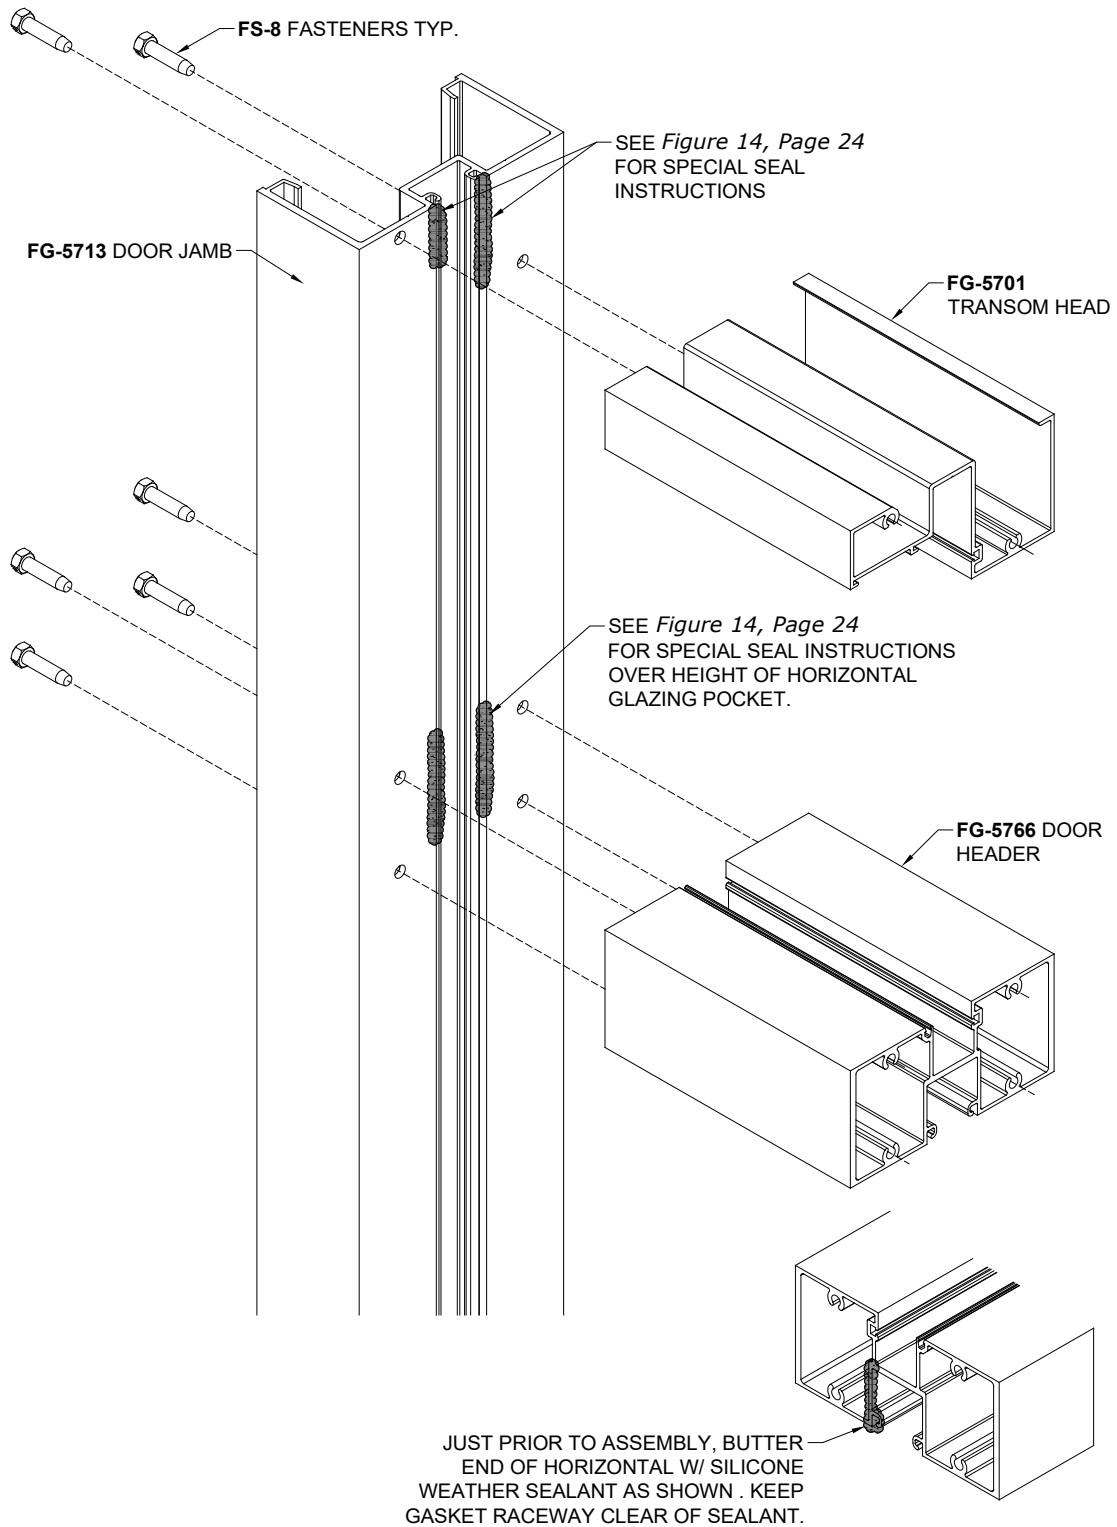
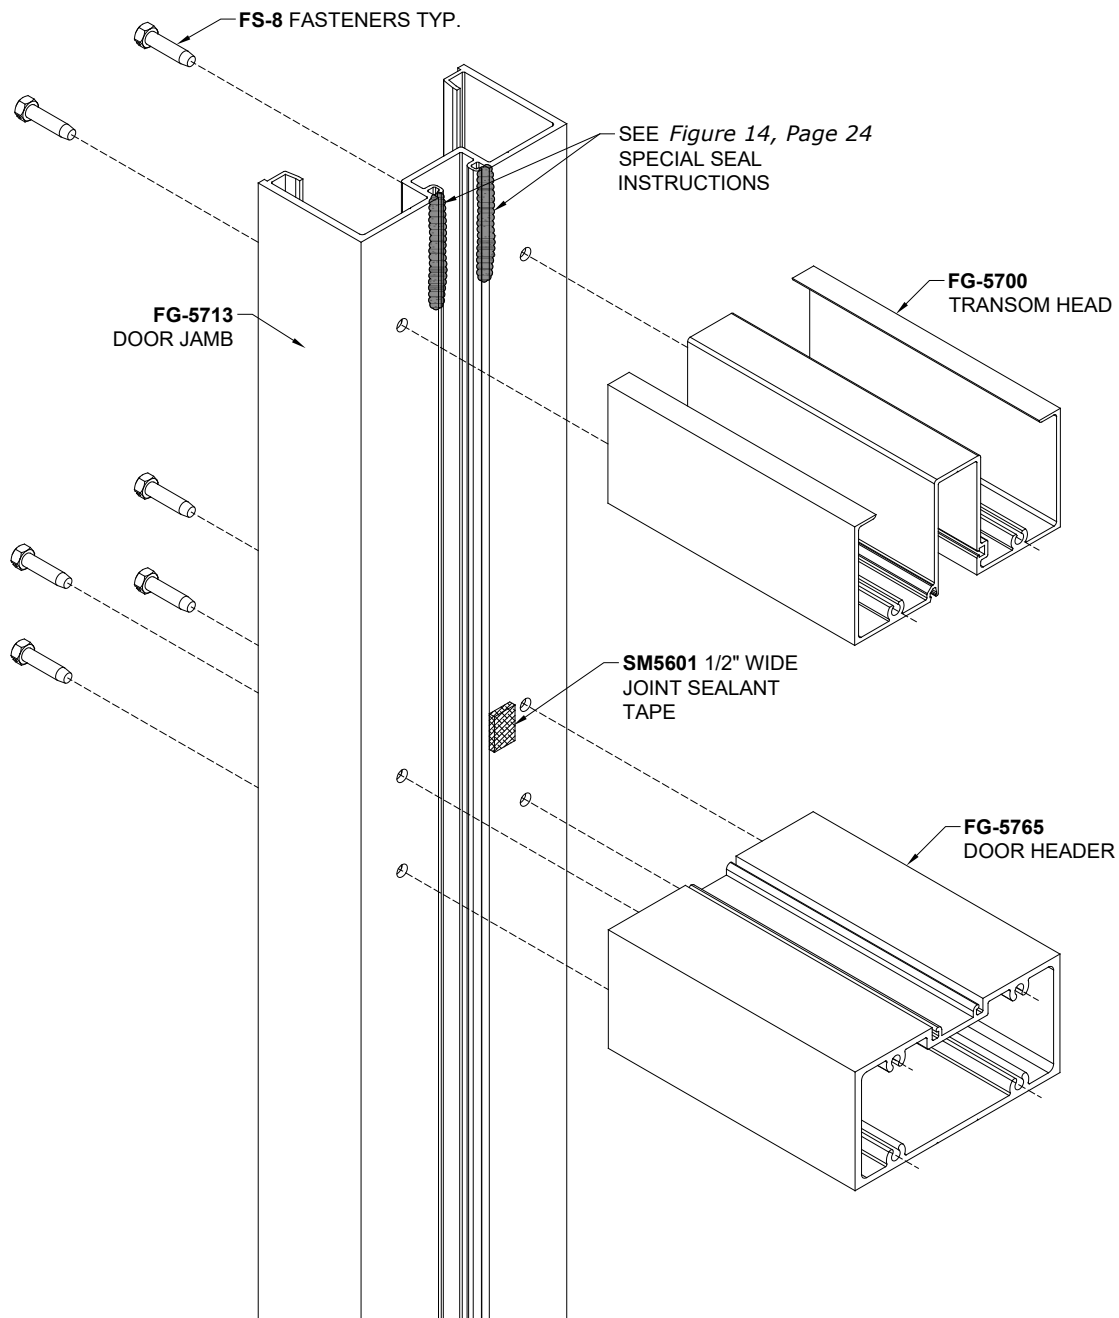

Figure 12: FG-5700 StormMax® Door Frame Assembly Option 1
Figure 13: FG-5700 StormMax® Door Frame Assembly Option 2
- 3.1 Reference Figure 12 and Figure 13 to attach Door Jamb to Door Header and Transom Head (if applicable).